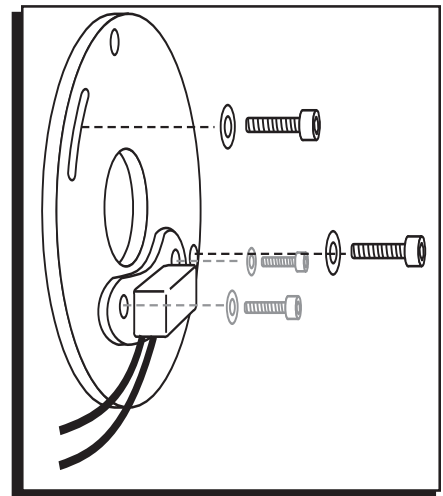
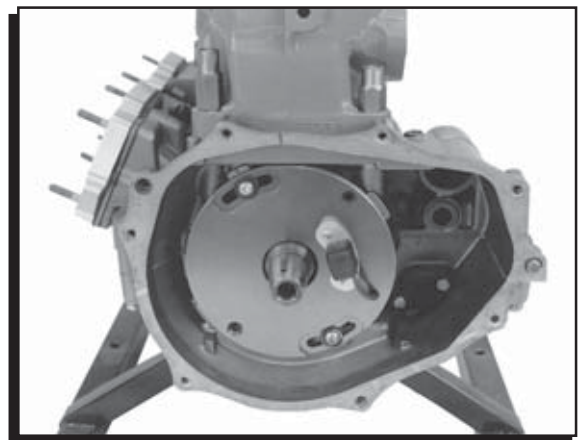

Figure 8 Assembling the Trigger Plate.
Figure 9 Mounting the Trigger Plate Assembly.
1. Assemble the trigger plate and pick-up assembly as shown in Figure 8. Place the trigger plate assembly on the bosses with the trigger on the side of the engine where the wires normally exit the case (Figure 9). Screw the supplied bolts and compression washers into the case and lightly tighten to hold the trigger plate in the center of the case's mounting pads.